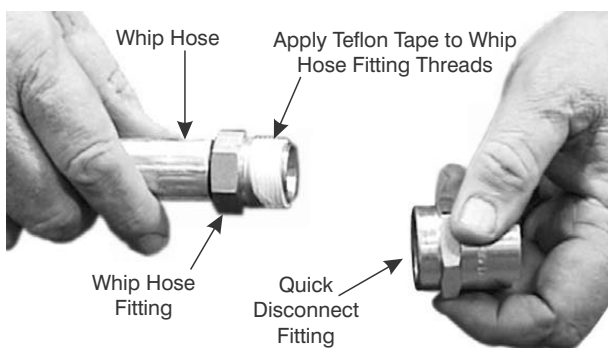

Figure 11-5. Apply Teflon Tape to Hose Fitting.
3. At both ends of the Whip Hose, wrap the threads of the hose fittings with teflon tape as shown in Figure 11-5.